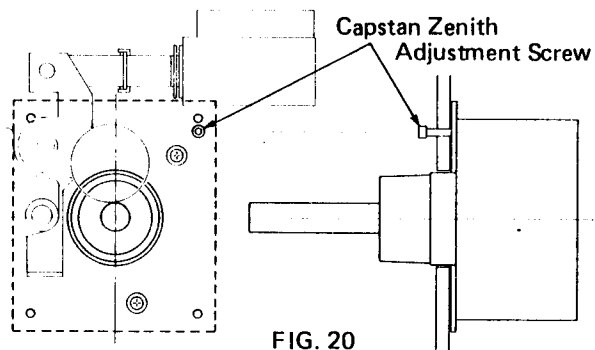

FIG. 20
C. Capstan Zenith (Fig. 20)
1. Locate the capstan zenith adjustment screw by referring to Figure 20.